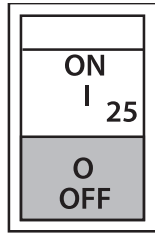

Figure 33. Main Circuit Breaker (OFF)
1. Place **main** circuit breaker (Figure 33) in the **OFF** position.